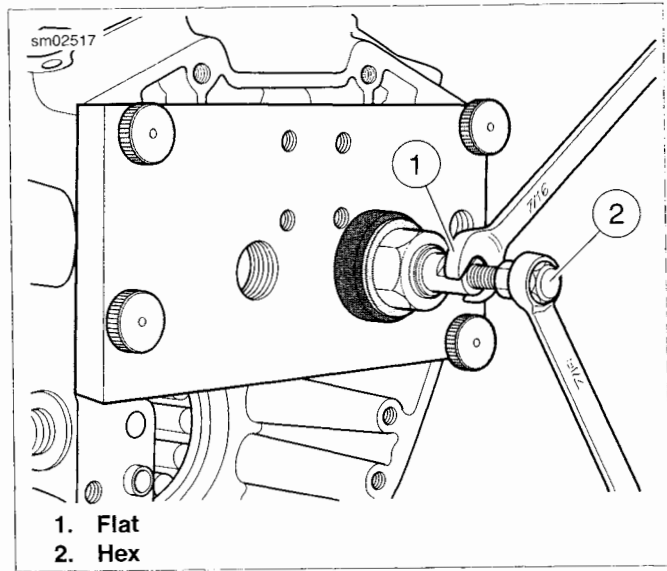

Figure 3-131. Expanding Collet by Turning Hex Clockwise
10. See Figure 3-131. Using a 7/16 in. open end wrench, hold flat on collet to prevent rotation. Using a second 7/16 in. open end wrench, expand collet by turning hex at end of shaft in a clockwise direction. Expandable end of collet makes contact with needle bearing ID.